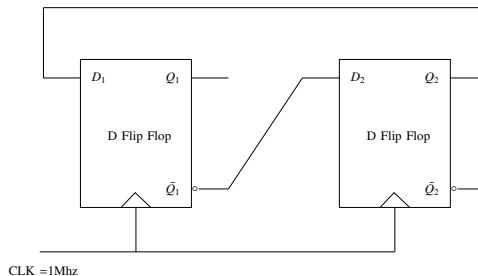

Fig. 5.7
7. In a given sequential circuit in Fig. 5.7, initial states are $Q1 = 1$ and $Q2 = 0$. For a clock frequency of $1MHz$, find the frequency of signal $Q2$ in kHz (rounded off to the nearest integer).